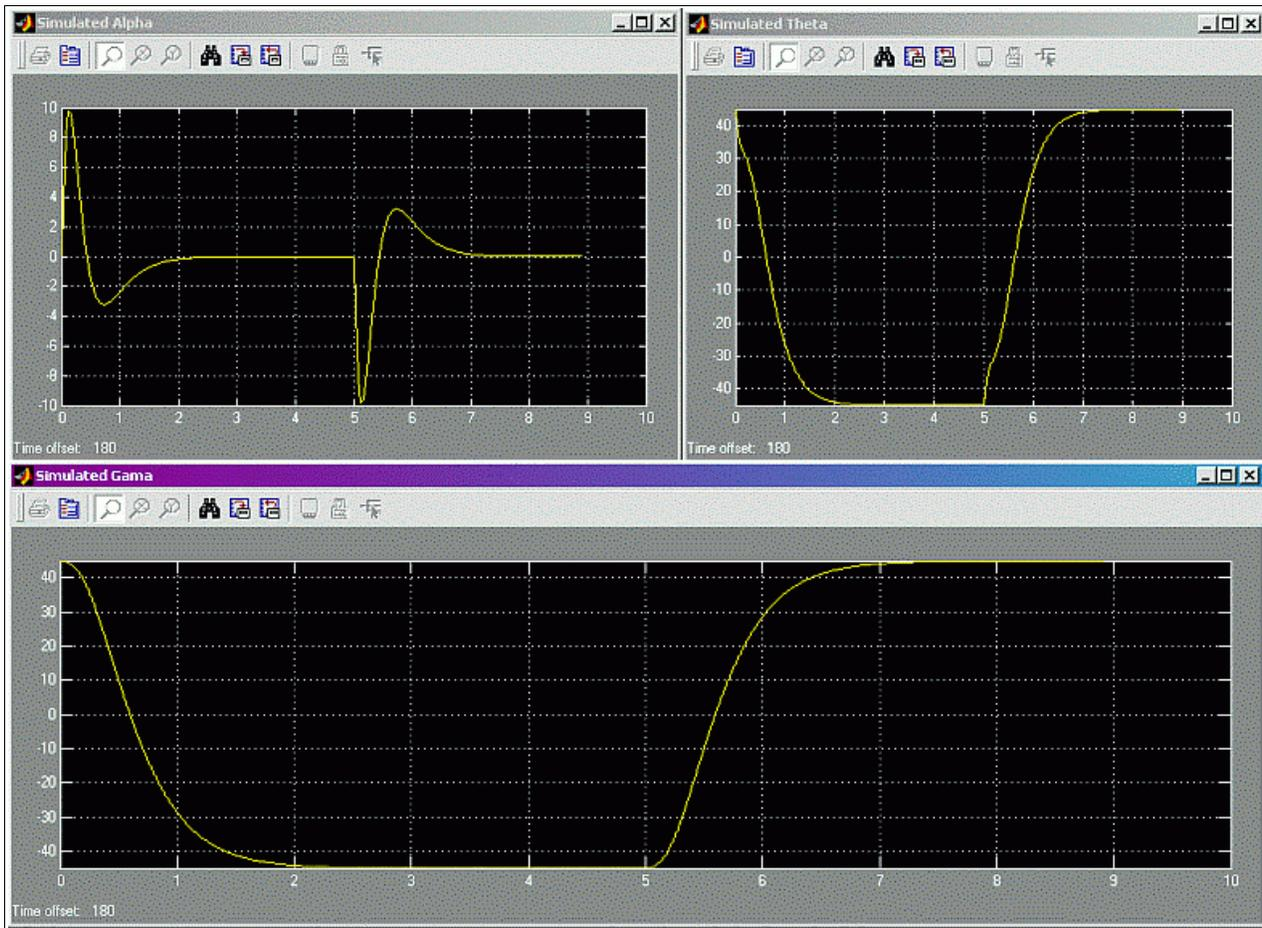

Figure 4 - Simulation of Closed-Loop System
Once you have ensured that the closed-loop poles are at the desired location, you can continue on and simulate your controller. Under the same directory, open a Simulink model called “s\_SRV02\_Rotary\_Gantry.mdl”. This model is a simulation of the Rotary Gantry system with a feedback law  $u = -kx$ . Start the simulation. You should have 3 scopes open that are displaying alpha ( $\alpha$ ), theta ( $\theta$ ) and gamma ( $\theta + \alpha$ ). You should be seeing the simulation response to a square-wave command of  $\pm 45^\circ$ . The 3 responses you are seeing should look similar to Figure 4 below.
As you can see from the above simulation, the controller places the tip with no overshoot and zero steady state error. In simulation, the controller has met all the objectives. If your simulation matches Figure 4 above, you can continue and implement the controller.
- ii. In part I of the lab, you were asked to simulate the system with the calculated gain. Be sure to include a simulation printout similar to Figure 4.